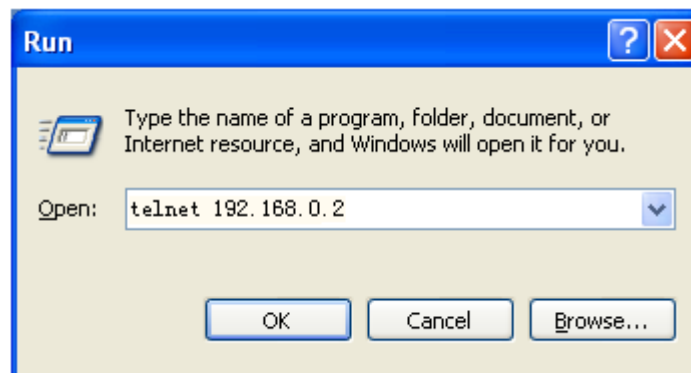

Figure 25: Telnet access
Step 2: Open the “Run” dialog box, type: “telnet *IP-address*” as shown in Figure 25.